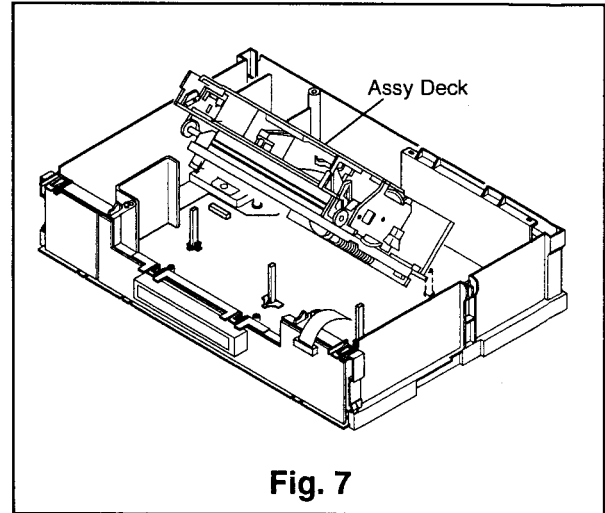

Fig. 7
- ① Remove the Top Cover referring to Para. 1 of the DISASSEMBLY. Servicing on the components side is partially possible.
- ② Remove the Front Panel referring to Para. 2 of the DISASSEMBLY, and remove eight fastening screws referred to ②, ③ in Para. 4 of the DISASSEMBLY. (Do not disconnect the connector **ML**.)
- ③ Raise the front side of the Assy Deck upward as shown in Fig. 7 and support it with a screw driver, etc. Servicing on the components side is now possible.